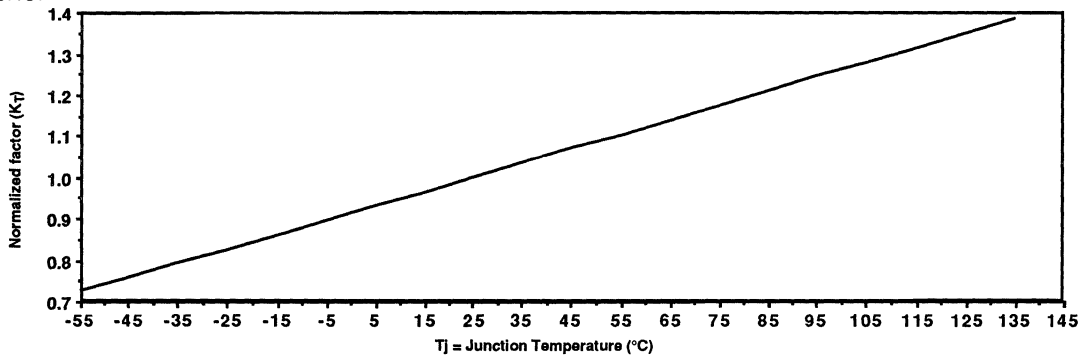

Figure 6: Temperature Derating Factors for AC Characteristics
2.2.2 Figures 6, 7, and Table 6 contain derating factors for various temperatures, voltages, and process variation respectively. To obtain a delay value at conditions other than typical, multiply the derating factors corresponding to those conditions to the current values from the delays in the datasheets, i.e. $K_T \cdot K_V \cdot K_P \cdot T_D$, where T_D can be a delay from the delay characteristics table mentioned in 2.3.12 or a value calculated from the propagation delay equations as mentioned in 2.3.13:
2.3.12.1 K_{PV}K_T are the derating factors for finding delays at conditions other than typical. Use Figures 6 and 7 for these values of K_P, K_V, and K_T. K_{PV} = K_P*K_T.